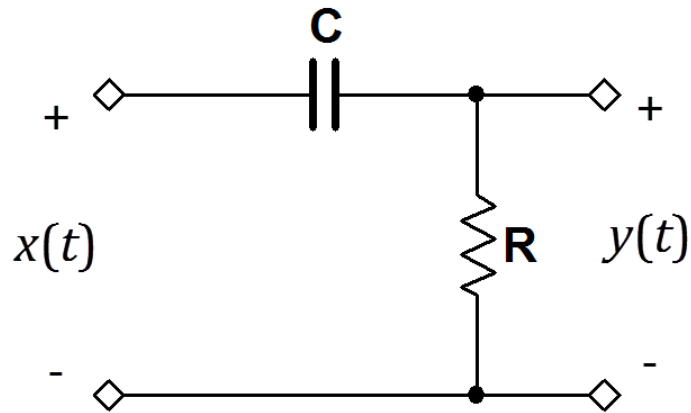

Figure 10.3: Circuit for Problem 10.3
Figure 10.3 shows a passive highpass filter circuit. After you determine its behavior (transfer function), design an input waveform to achieve a specified output waveform shape; do the first three parts of this problem symbolically to maintain generality:
1. Enter the circuit of Figure 10.3 on the preceding page using the same component values listed in the analytical section. Drive the circuit input with an ABM_VOLTAGE source.
1. Build the circuit of Figure 10.3 on the facing page using the same component values listed in the analytical section. Drive the circuit input with AO0 and use the ELVISmx Arbitrary Function generator to produce the waveform $x(t)$ with a period of 100 ms. Set the voltage to zero before the end of the period to allow the circuit sufficient time to return to its zero-output state.